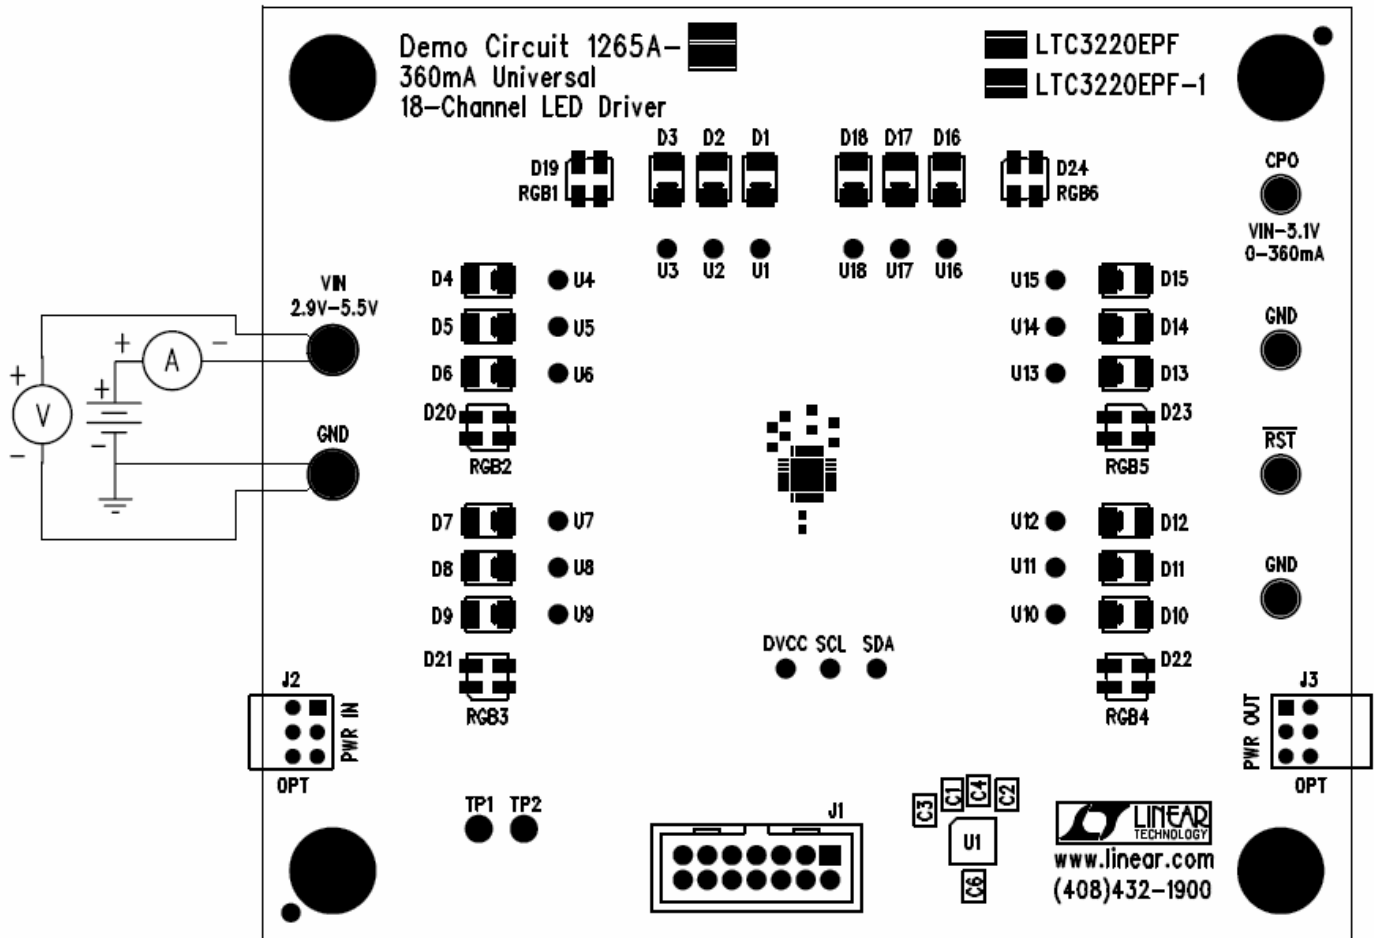

Figure 1. Proper Measurement Equipment Setup
Demonstration circuit 1265 is easy to set up to evaluate the performance of the LTC3220/LTC3220-1. Refer to Figure 1 for proper measurement equipment setup and follow the procedure below:
3. Connect DC1265 to the DC590 USB Serial Controller using the supplied 14-conductor ribbon cable as shown in Figure 1.
4. With power off, connect a 5V, 1A power supply to VIN and GND with a series ammeter and a voltmeter as shown in Figure 1.